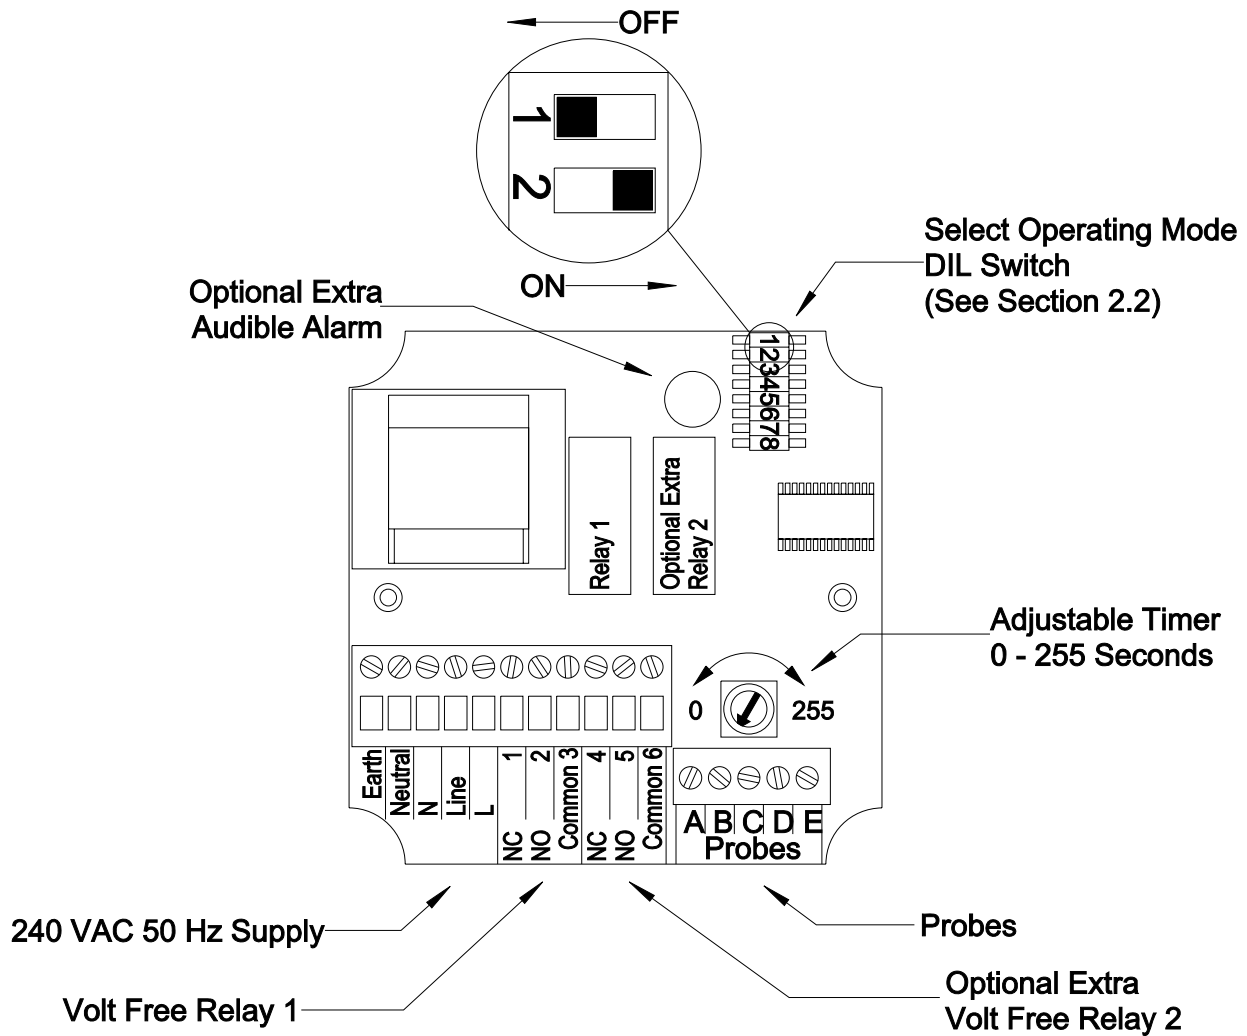

fig. 3. LSM level switch circuit board layout showing power supply, volt free relay and probe connections, plus location of DIL switches and adjustable timer.
- 1.3.3.4 Connect incoming electrical mains supply to identified terminals in control box (see fig. 3). Ensure voltages and frequency indicated on the labels correspond with supply mains data and that the supply fuse ratings are correct for the total current rating of the equipment.
- 1.3.3.5 Connect volt free relay terminals as required. (see fig 3).
The following table is to illustrate the various options available for relay and timer operations, see also fig. 3: -